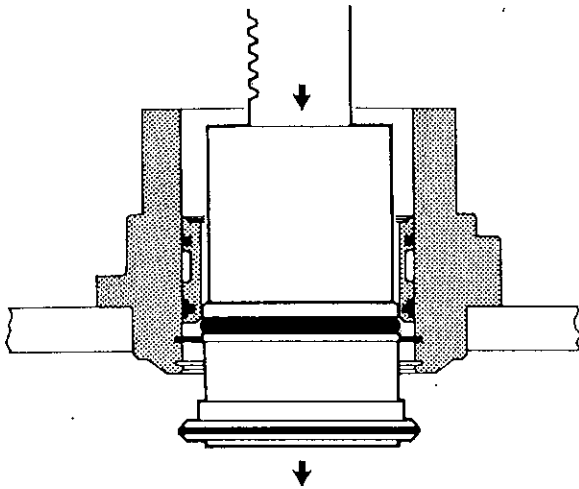

Figure 4.12
19. Place drive housing in a press supported by its flange and press out the bearing retainer (14). See Figure 4.12.